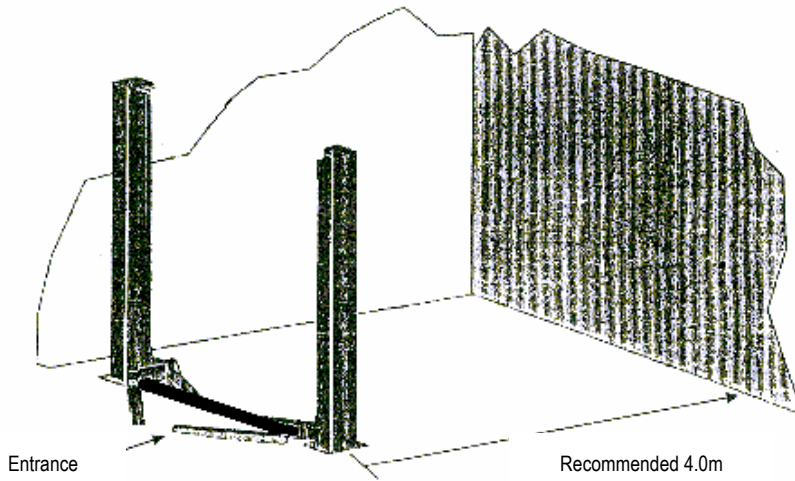

Fig 6
- The front and back of the lift should be reserved with sufficient space to accommodate all the vehicles (Fig. 6).(evaluating from the center line ,each edge should be about 4m)